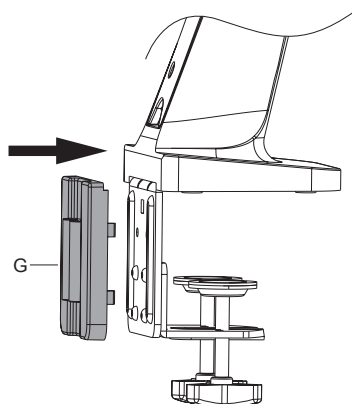

Figure 3
3. Install the Decorative Cap (G) to the C-Clamp Brace, see Figure 3.